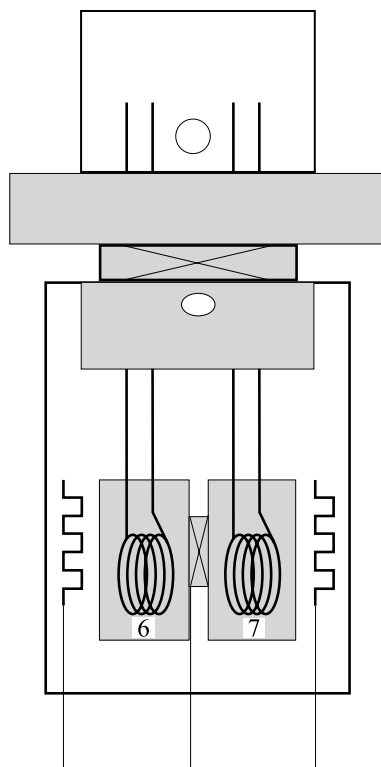

Figure 3-1b: N-DSC III capillary cell measuring unit. Items 6 and 7 designate capillary cells.
In the N-DSC III design (Figure 3-1a and Figure 3-1b) the thermal jacket (11) is heated and cooled at a constant rate. Using a known reference voltage, the temperature of the jacket is controlled by the computer. The temperature control circuit (3) compares this reference voltage to that of the platinum thermometer (1) inside the calorimeter block. After comparison, the computer adjusts the power applied to the Heating and Cooling Peltier elements (4). Thus, through the Digital to Analog Converters (5), the computer has a direct linear control of the temperature of the jacket. This ensures the cells (6/7) are heated and cooled at a constant rate. For practical reasons however, the maximum heating or cooling rate of the N-DSC III is limited to $2^{\circ}\text{C}/\text{minute}$. The minimum temperature scan rate is actually $0^{\circ}\text{C}/\text{time}$ (isothermal).
The use of semiconductor thermobatteries as sensors required a new design for the construction of the calorimetric cells. The N-DSC III's cells are made from 24 karat gold or platinum. Both types have platinum access tubes. Cylindrical cells (6,7 in Figure 3-1a) are machined as a cylinder and capped at each end. Capillary cells (6,7 in Figure 3-1b) are made of wound capillary tubing. Access tubes are open to the manostat which maintains a constant excess pressure. The sensors and balancing heaters (resistors) are soldered to the surface of the cells.